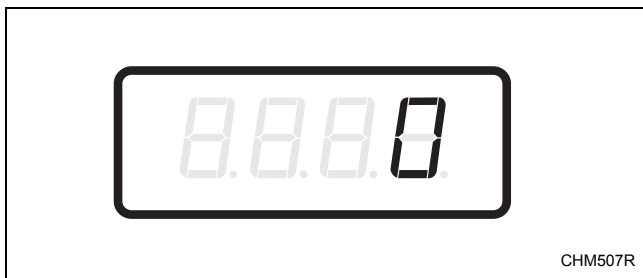

Figure 18
2. When “SA14” appears in the display, press the START (enter) keypad. There are five digits in the Special Vend A Vend Price #4. The fifth digit will appear in the display and will flash one second on and one second off. Refer to *Figure 18*.